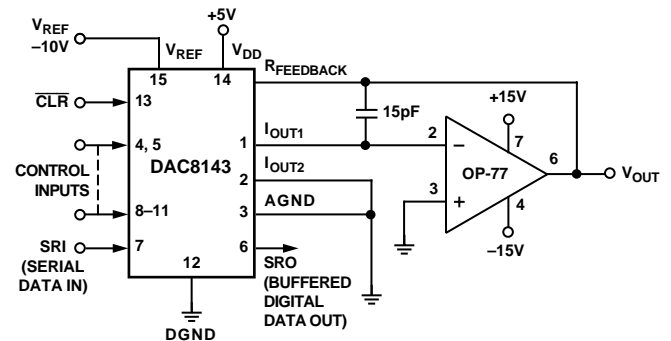

Figure 16. Unipolar Operation with High Accuracy Op Amp (2-Quadrant)
1. Phase compensation (see Figures 16 and 17).
The circuit shown in Figures 16 and 17 may be used with an ac or dc reference voltage. The circuit's output will range between 0 V and $+10(4095/4096)$ V depending upon the digital input code. The relationship between the digital input and the analog output is shown in Table II. The V_{REF} voltage range is the maximum input voltage range of the op amp or ± 25 V, whichever is lowest.
¹Nominal full scale for the circuits of Figures 16 and 17 is given by
²Nominal LSB magnitude for the circuits of Figures 16 and 17 is given by